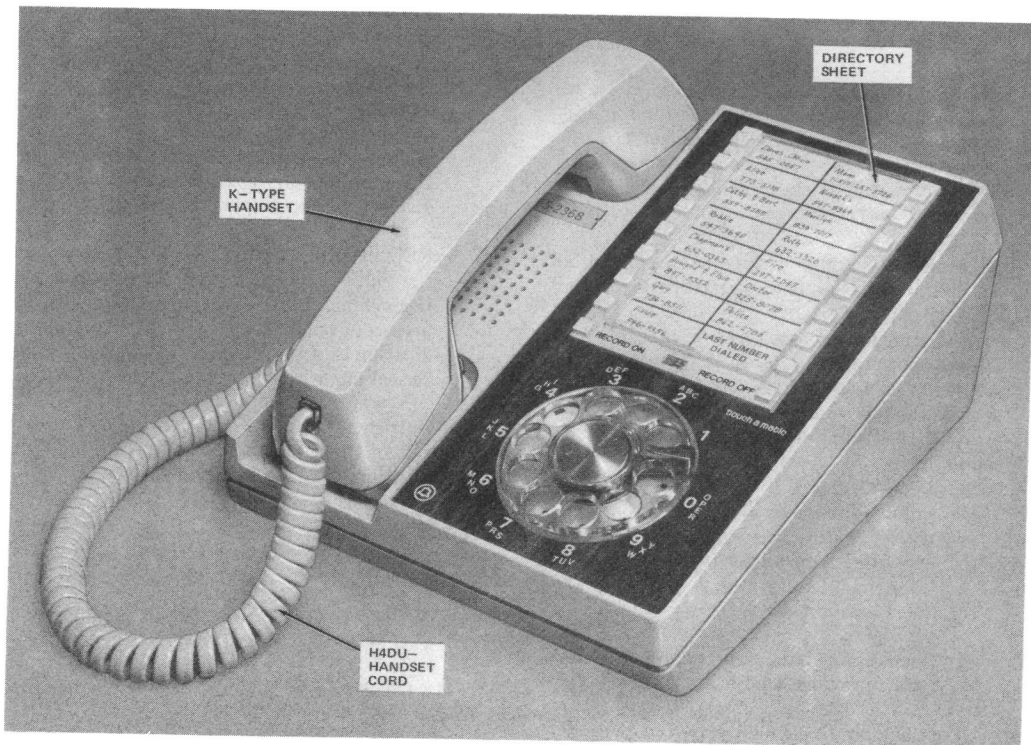

Fig. 1—960A01M (MD) Telephone Set
**1.01** This section contains information on the 960A01M manufacture discontinued (MD) telephone set. This set is shipped from the factory as a desk set (Fig. 1) and can easily be converted to a wall set with no additional parts required.